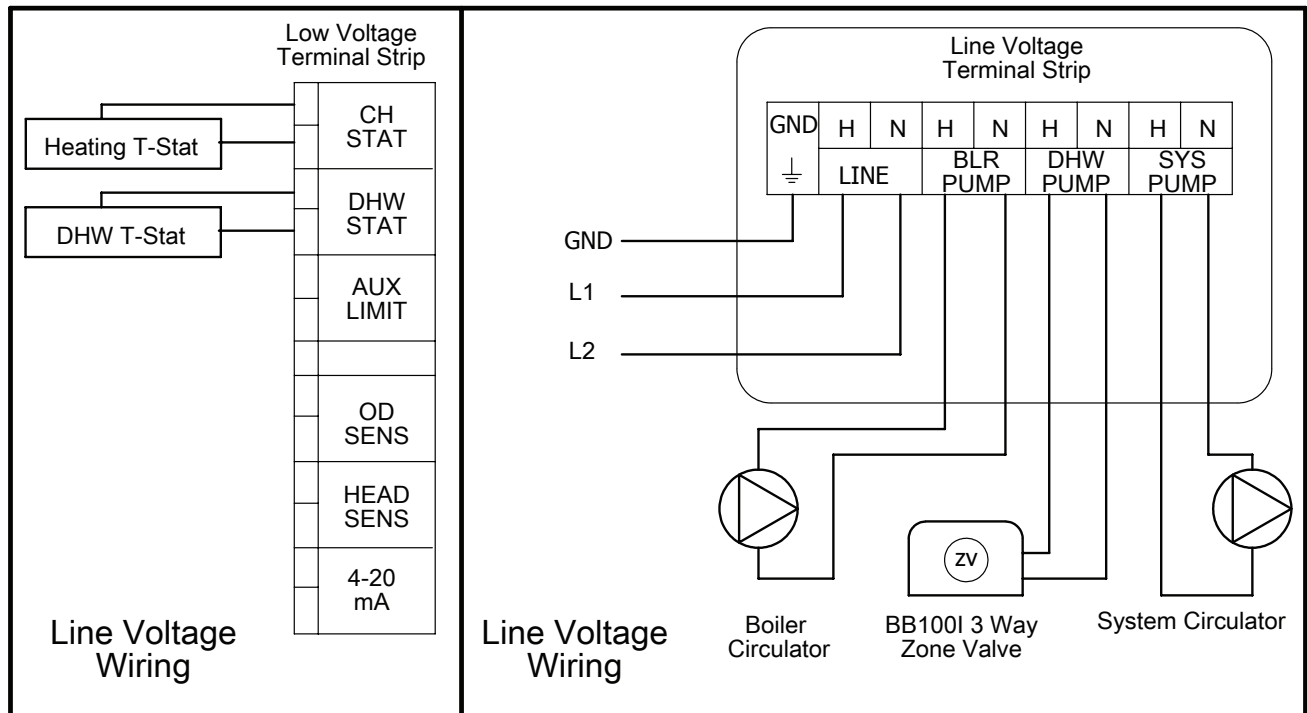

FIGURE 7.3: Wiring BB100I to Boiler equipped with Sola
4) Connecting BB100I to Sola Equipped boilers (Figure 7.3):